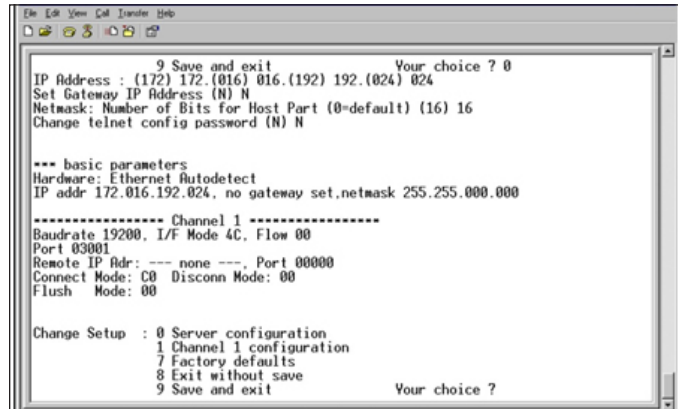

Figure 4: Channel Configuration
13. Press the **1 (one)** key and then **Enter** to enter Channel 1 Configuration, shown in **Figure 4**.